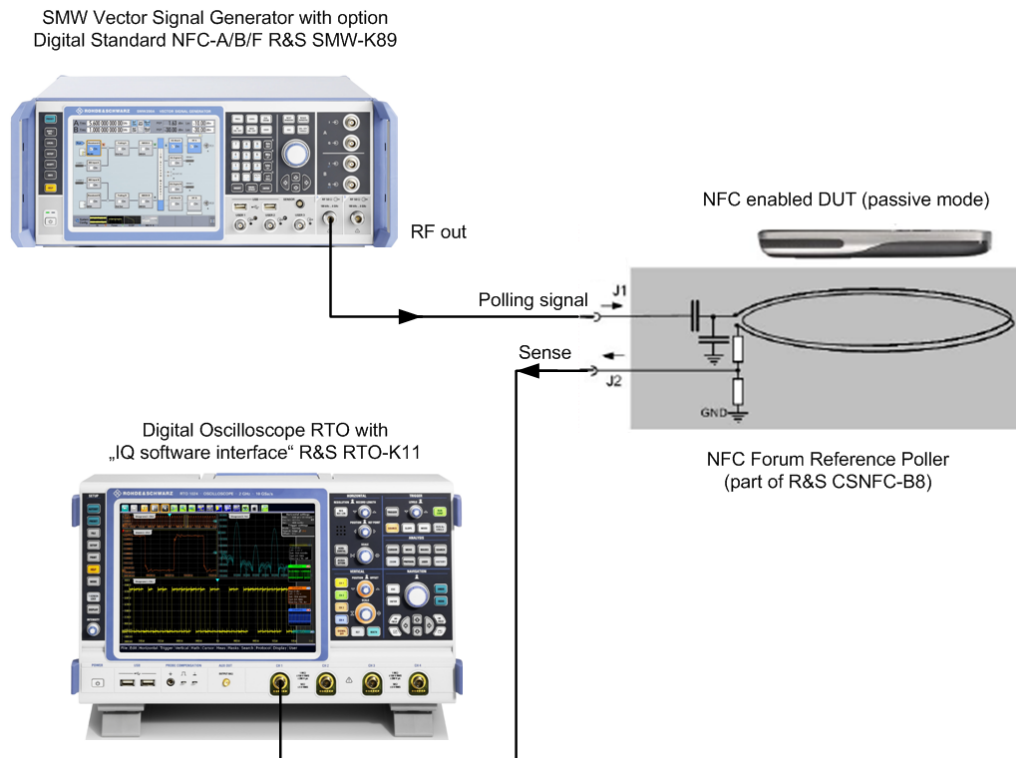

Figure 6-2: Test setup for an NFC mobile phone in listening mode (simplified schematic).
1. Connect the RF A/RF B Out connector of the R&S SMW to the X1 connector of the NFC Forum reference poller, see Figure 6-2.